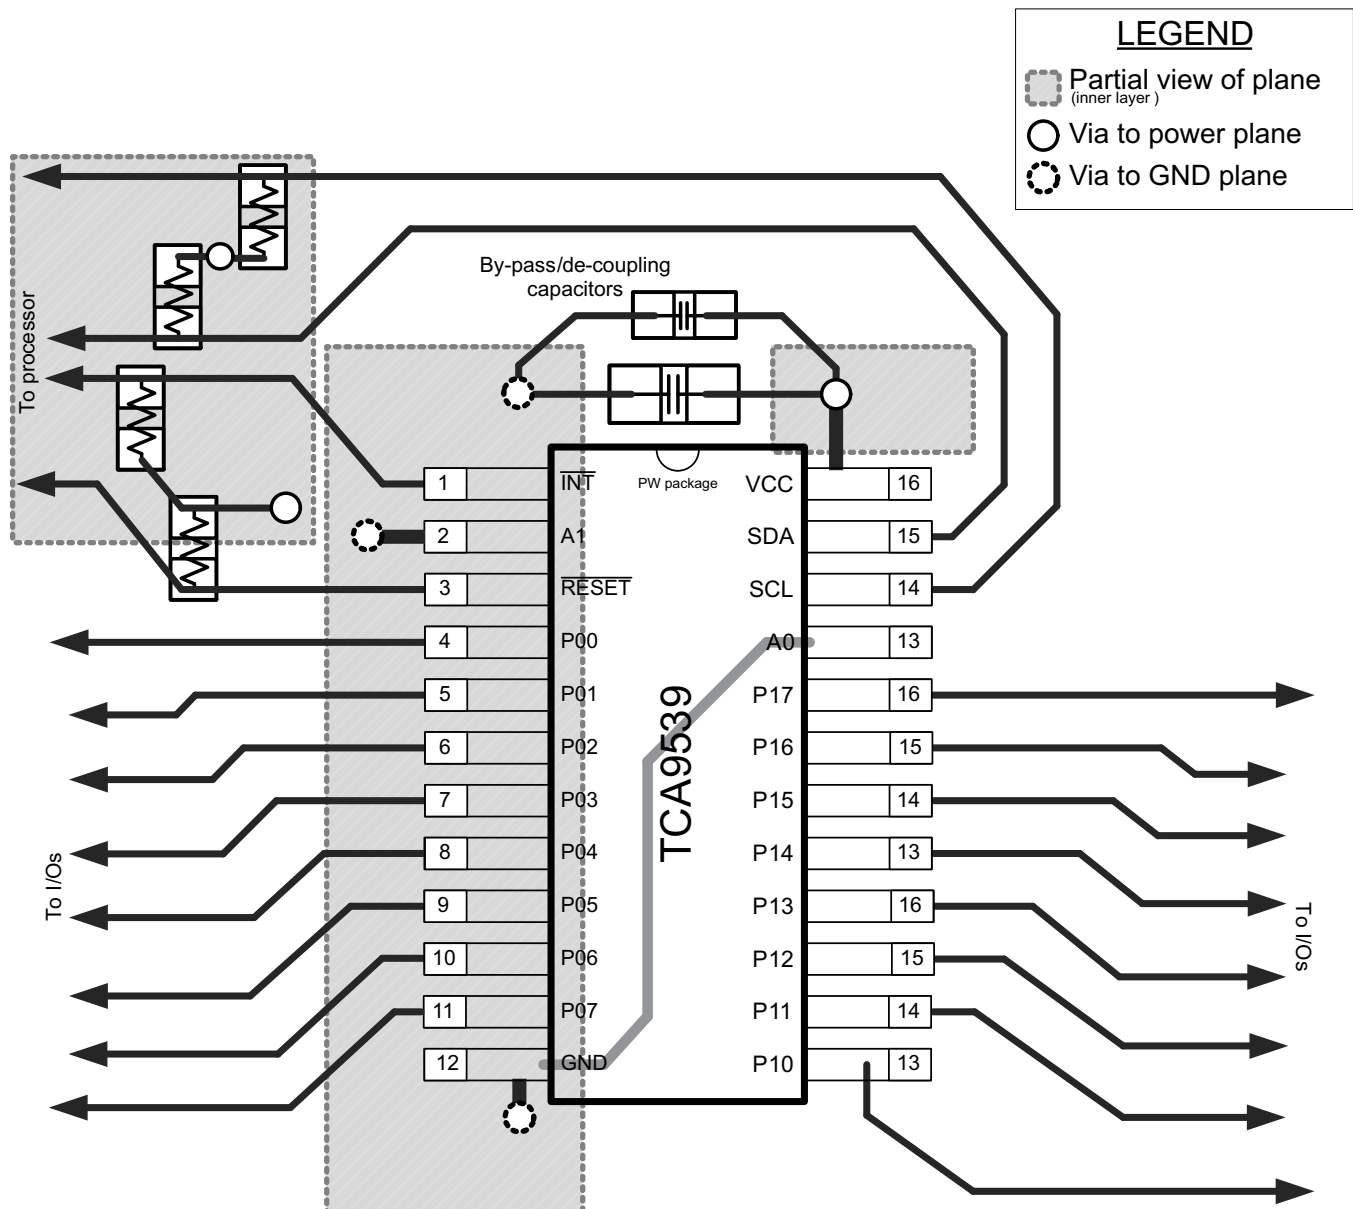

Figure 43. TCA9539 Layout
In all PCB layouts, it is a best practice to avoid right angles in signal traces, to fan out signal traces away from each other upon leaving the vicinity of an integrated circuit (IC), and to use thicker trace widths to carry higher amounts of current that commonly pass through power and ground traces. By-pass and de-coupling capacitors are commonly used to control the voltage on the VCC pin, using a larger capacitor to provide additional power in the event of a short power supply glitch and a smaller capacitor to filter out high-frequency ripple. These capacitors must be placed as close to the TCA9539 as possible. These best practices are shown in Figure 43.
For the layout example provided in Figure 43, it would be possible to fabricate a PCB with only 2 layers by using the top layer for signal routing and the bottom layer as a split plane for power (V_{CC}) and ground (GND). However, a 4 layer board is preferable for boards with higher density signal routing. On a 4 layer PCB, it is common to route signals on the top and bottom layer, dedicate one internal layer to a ground plane, and dedicate the other internal layer to a power plane. In a board layout using planes or split planes for power and ground, vias are placed directly next to the surface mount component pad which must attach to V_{CC} or GND and the via is connected electrically to the internal layer or the other side of the board. Vias are also used when a signal trace must be routed to the opposite side of the board, but this technique is not demonstrated in Figure 43.